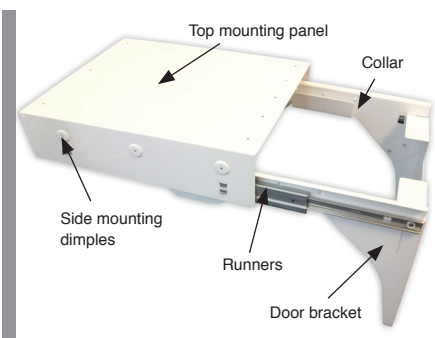

FIG 2 - Unit Parts
- See (fig 2) to identify unit parts.
- Your unit has side mounting dimples, as shown in fig 2 & 3. If side mounting, the internal space of the cabinet must be within the advertised width.